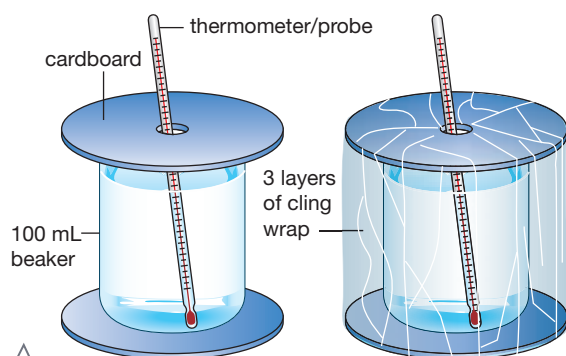

Figure 5.3.13
- 3 Position each beaker on a cardboard disc. Punch identical holes in the centre of the two remaining discs to fit a thermometer or probe as shown in Figure 5.3.13.